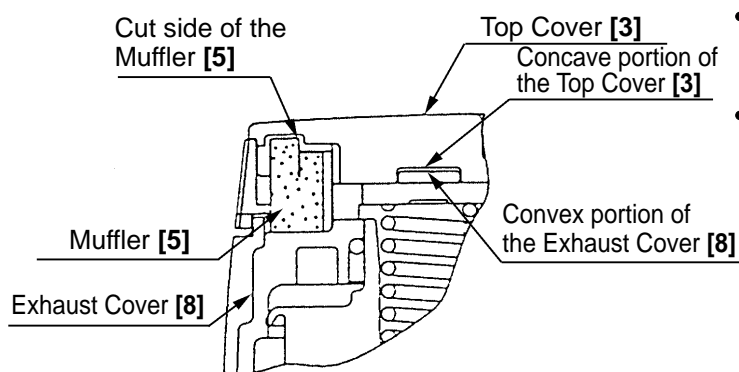

Fig. 5
- Matching the cut side of the Muffler [5] to the Top Cover [3], mount the Muffler [5] without curling it (Fig. 5).
- Mount Gasket (A) [9] so that its hole matches the blowhole of the Body Ass'y [22].